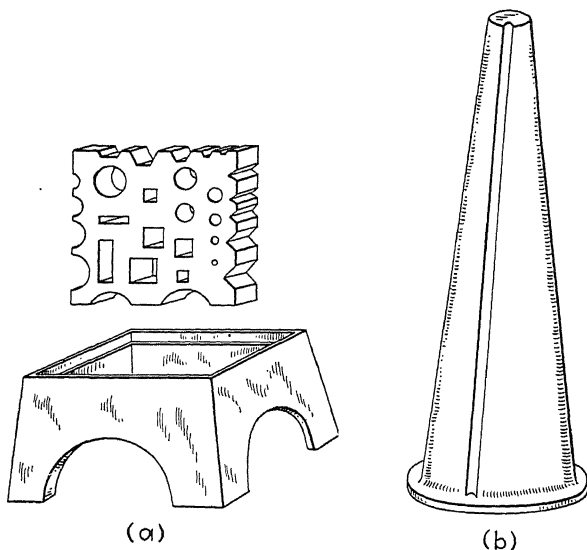

FIG. 248.—*a*, Swage block and stand; *b*, forge-shop cone.
**301. The Swage Block.**—This forge-shop tool (*a*, Fig. 248) is used for many squaring, sizing, heading, bending, and forming operations. It is 1 ft. or more wide and may be used either flat or edgewise in its stand.
**302. The Forge-shop Cone.**—The forge-shop mandrel or cone (*b*, Fig. 248) is used for truing and sizing rings. It is made in various sizes, the average being about 3 ft. high and tapering from 2 in. at the top to 12 in. at the base.